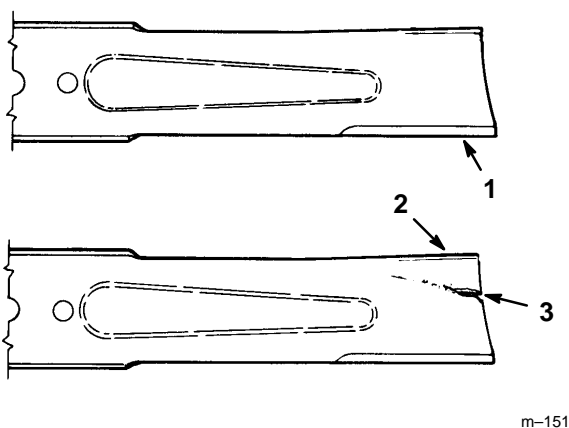

Figure 28
1. Inspect the cutting edges (Fig 28). If the edges are not sharp or have nicks, remove and sharpen the blades. Refer to Sharpening the Blades on page 30.
2. Inspect the blades, especially the curved area (Fig. 28). If you notice any damage, wear, or a slot forming in this area (item 3 in Fig. 28), immediately install a new blade.